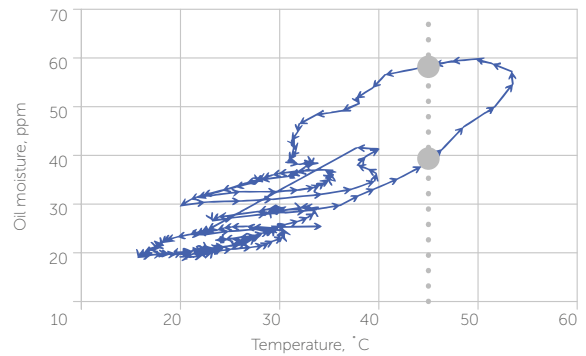

Figure 5. Moisture dynamics: hysteresis\*\*
4. As the water diffusion time is faster from the paper to the oil than the opposite it is possible to reach on the same transformer, several very different PPM values for the same oil temperature even at a few days difference (see figure 5).